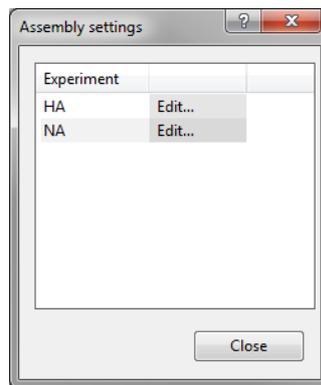

Figure 16: The *Assembly settings* dialog box.
23. Press the **<Assembly settings>** button to call the *Assembly settings* dialog box (see Figure 16).